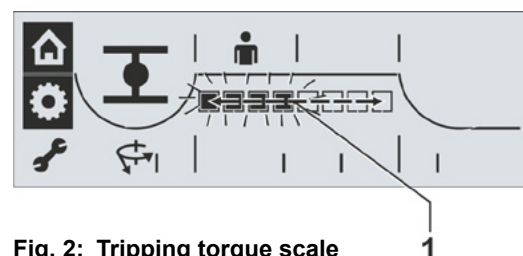

Fig. 2: Tripping torque scale
The scale (fig. 2, item 1) indicates the modification.